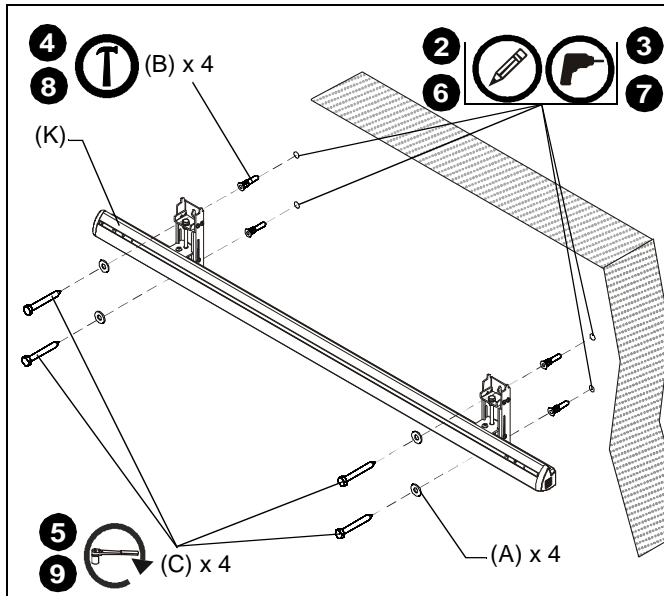

Figure 3
**NOTE:** The two WBM2U wall brackets on the wall assembly (K) must be mounted a minimum of 16" apart, or a maximum of 42" apart.
- Using a level, mark the wall above existing chalkboard through top mounting hole in the wall assembly (K). (See Figure 3)
- Drill one 1/4" x 2-3/4" pilot hole at each marking. (See Figure 3)
- Install a toggler (B) into each pilot hole using a hammer. (See Figure 3)
- Use two 1/4-20 x 2-1/2" lag bolts (C) and two 1/4" flat washers (A) to attach wall assembly (K) to anchors in wall. (See Figure 3)
- Mark the wall through the lower mounting hole in the wall assembly (K). (See Figure 3)
- Drill one 1/4" x 2-3/4" pilot hole at each marking through lower mounting hole in wall assembly (K). (See Figure 3)